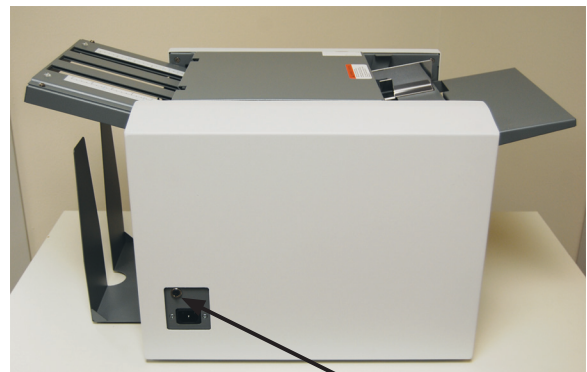

Figure 7
5. Reinstall cover and press the black breaker reset button (figure 7).
3. Reset the breaker by pressing the black button (fig. 7) near the power cord inlet.